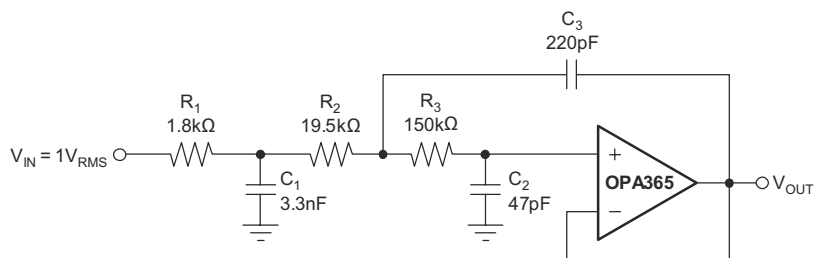

图 8-4. Configured as a 3-Pole, 20 kHz, Sallen-Key Filter
3. using a noninverting filter topology such as the Sallen-Key (shown in 图 8-4).